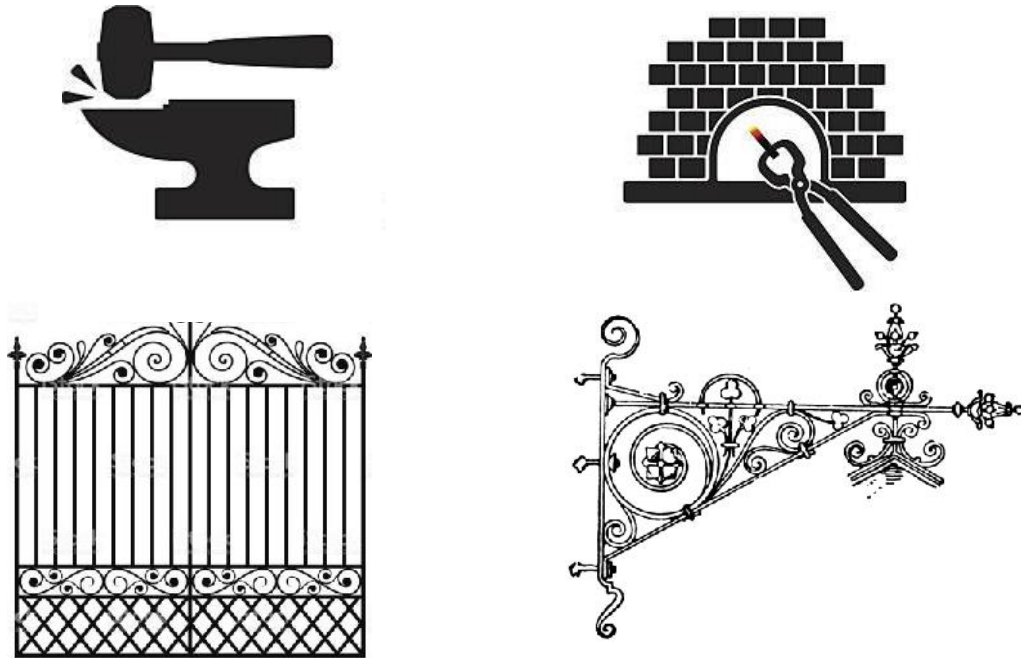

Figure 3
3. Classic Ironworks is the name of a family-owned company that manufactures a variety of decorative wrought iron works using traditional tools such as forge, sledge hammers, tongs and anvils. Their products include wrought iron gates and shop signs. Illustrations of the tools used, and the company's products are shown in Figure 3.